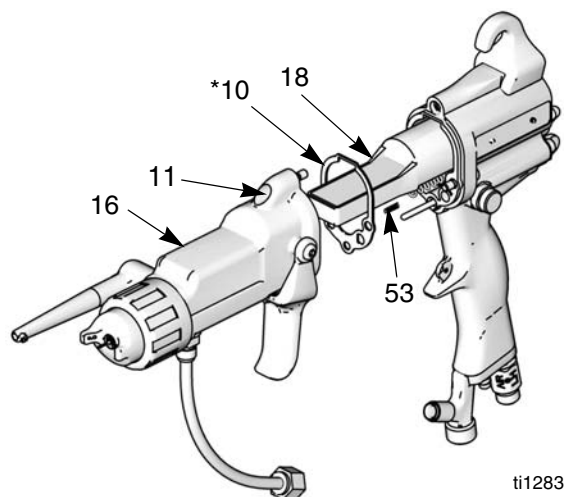

Fig. 17. Install Barrel
1. Be sure the gasket (10*) and grounding spring (53) are in place. Make sure the air holes are aligned properly. Replace if damaged. See FIG. 17.
2. Place the barrel (16) over the power supply (18) and onto the gun handle (17).
3. Tighten the three screws (11) oppositely and evenly (about a half turn past snug).